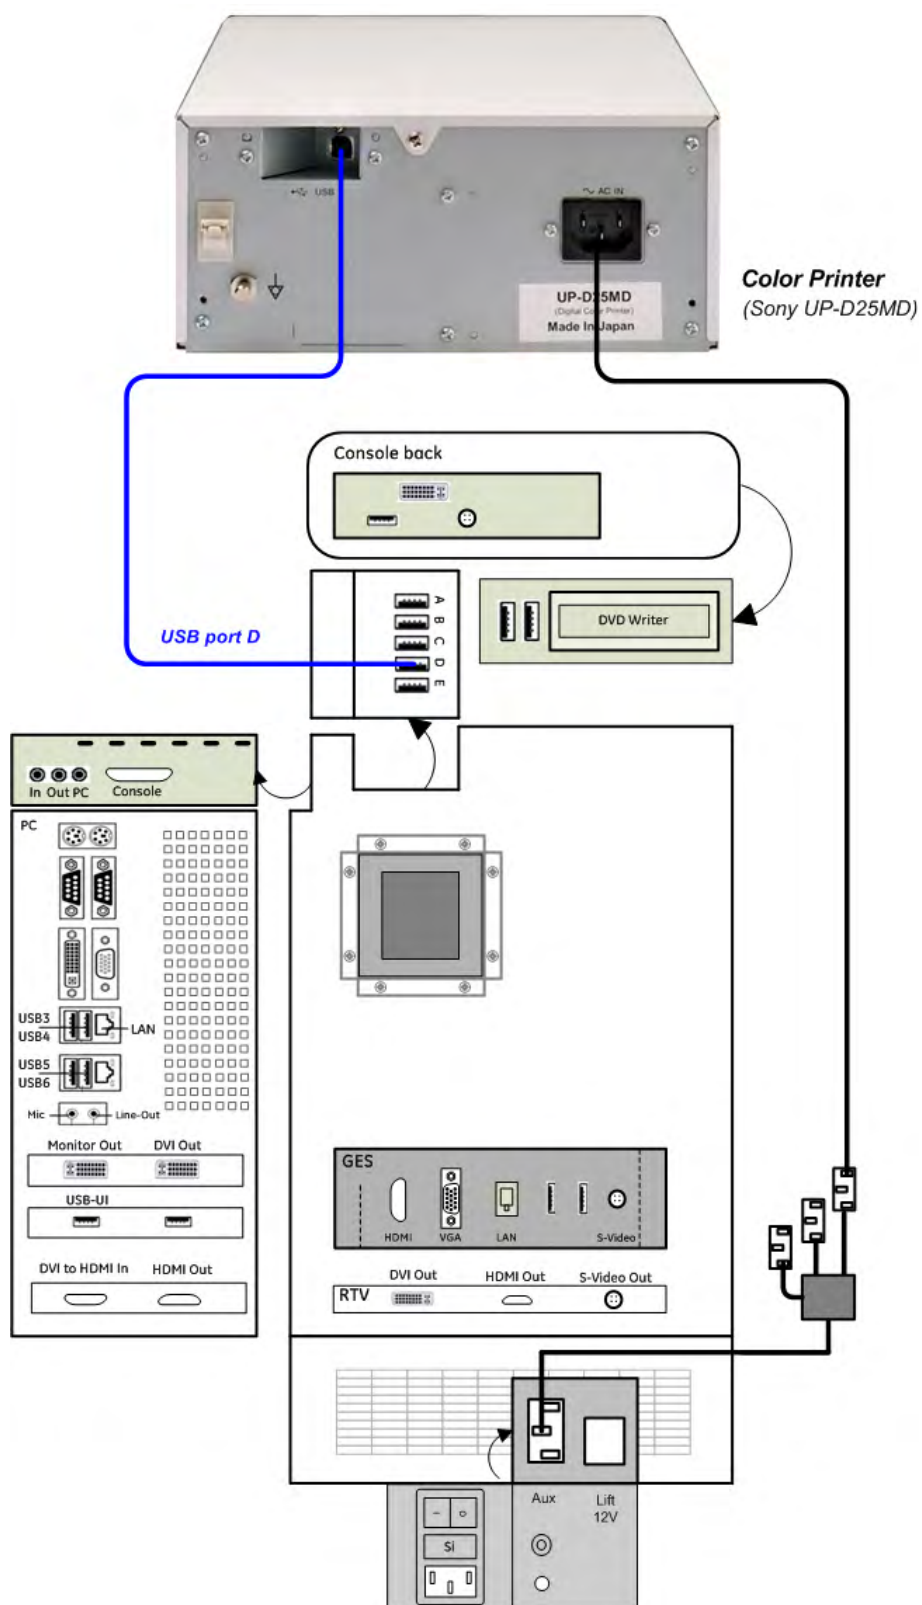

Figure 3-12 Connection Scheme - Color Printer
2. Connect the Color printer according to connection scheme, see: Figure 3-12 on page 3-20.